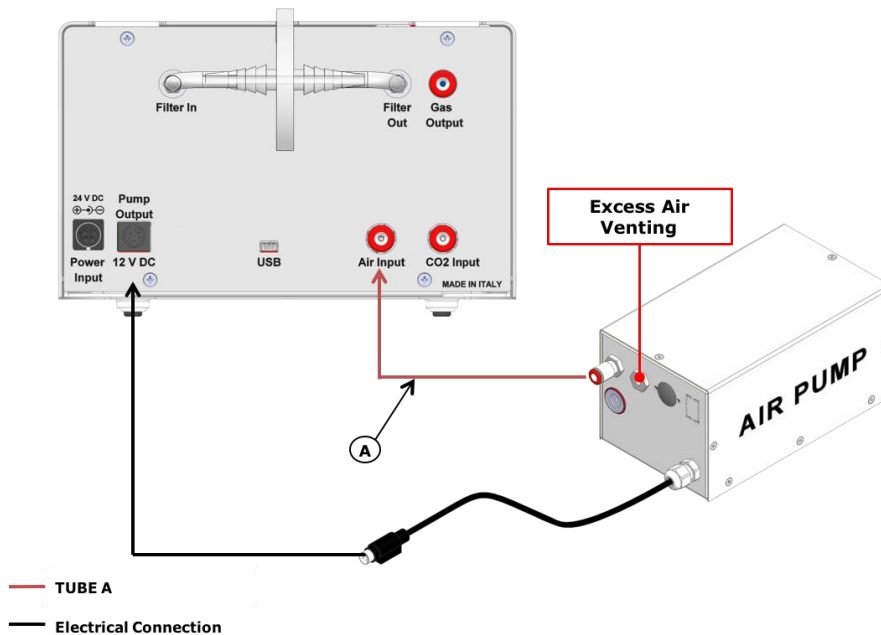

Figure 6. OKO-AP-3L Connections.
**Note** ► When using OKO-AP-3L as air source, it is necessary to connect OKO-AP-3L to CO2-UNIT-3L as shown in Figure 6. Use the provided TUBE A to connect the OKO-AP-3L to the Air Input and connect the electrical cable of the air pump to the connector labeled 'Pump output' on the rear panel of the CO2-UNIT-3L.